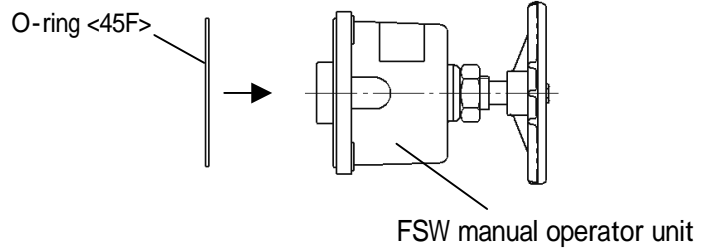

Fig.14
- (2) Mount an O-ring on the bottom of the FSW unit (**Fig.14**).